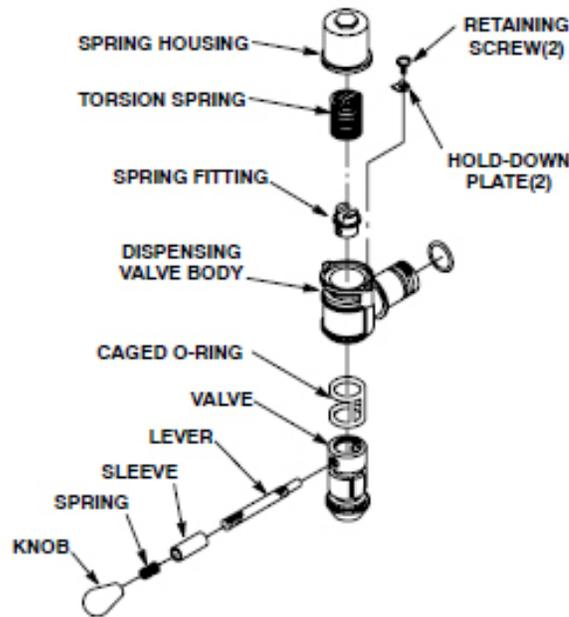

Figure 64. Self-Closing Dispensing Valve
5.	Disassemble the dispensing valve (see Figure 64).